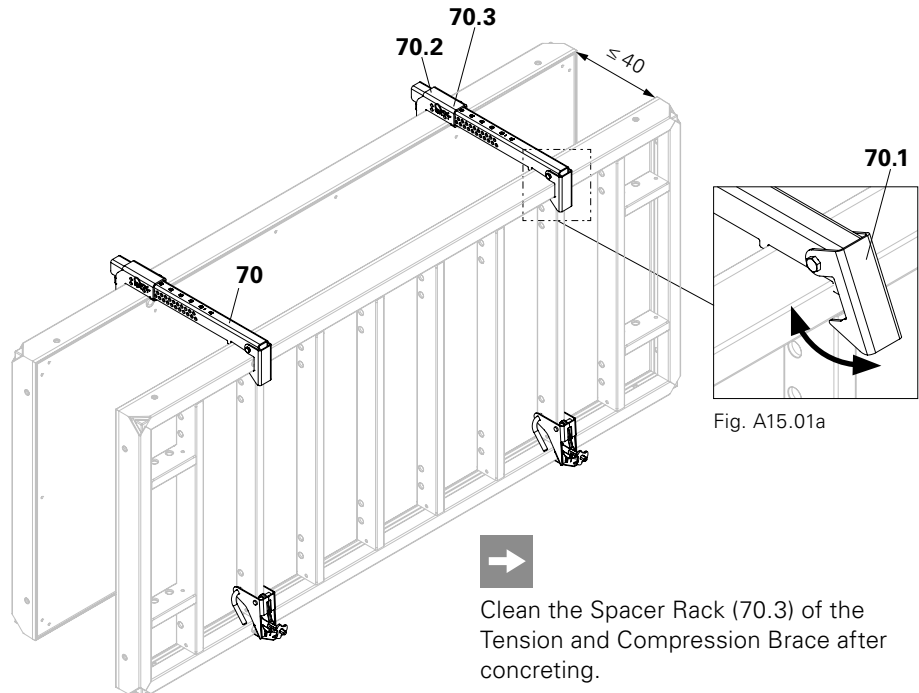

Fig. A15.01
- Wall thickness ≤ 40 cm: MX 15-40 (Fig. A15.01)